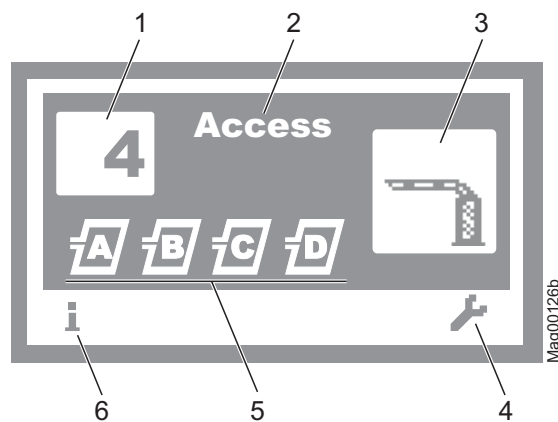

Fig. 15: Example "Operational view"
1. The operating view is displayed. → Refer to page 25, Fig. 15.